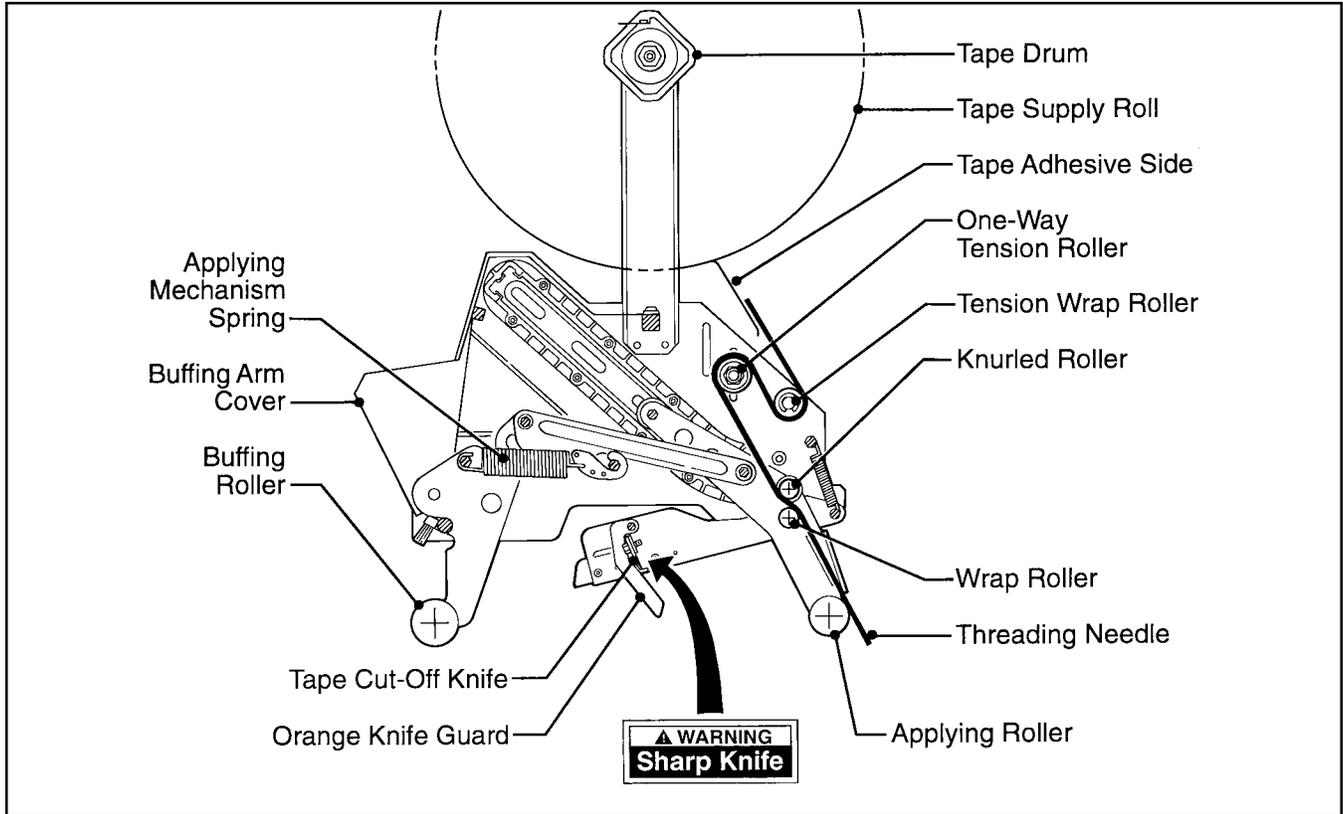

Figure 3-1 – Taping Head Components/Threading Diagram, Upper Head (Left Side View)
Before working with the taping heads or loading/threading tape, refer to Figures 3-1 and 3-2 (page 6) to identify the knife location. **Keep hands out of these areas except as necessary to service the taping heads or to load/thread tape.**
WARNING – Taping heads are equipped with an extremely sharp tape cut-off knife. The knife is located under the orange knife guard which has the "Warning – Sharp Knife" label. Before working with the taping heads or loading tape, refer to Figures 3-1 and 3-2 on page 6 and identify the knife location. Keep hands out of these areas except as necessary to service the taping heads.
3. The taping heads are equipped with an extremely sharp cut-off knife. Before working with the taping heads or attempting to load/thread tape, refer to Figures 3-1 and 3-2 and identify the knife location. Keep hands out of these areas except as necessary to service the taping heads.
The applying mechanism spring, shown in Figures 3-1 and 3-2, controls applying and buffing roller pressure on the box and returns the mechanism to the reset position. The spring pressure is pre-set, as shown in Figure 5-3A for normal operation, but is adjustable.